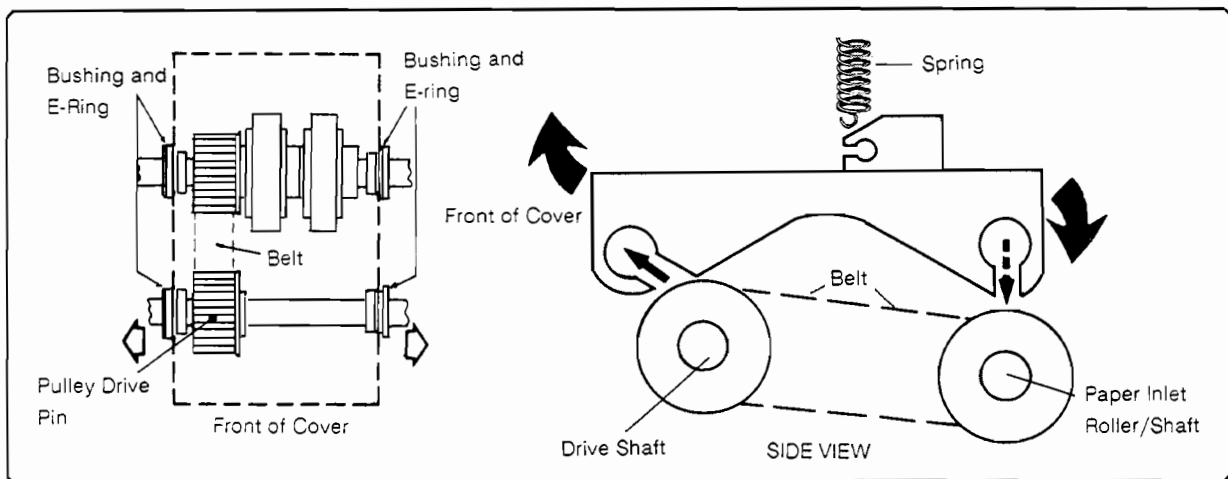

Figure 6-143. PDX Inlet/Separation Rollers
3. Disconnect the coil spring at the top of the paper inlet roller plate (Figure 6-143).